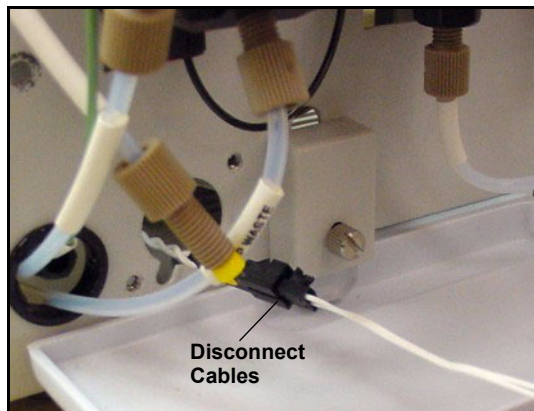

Figure 5-16. Eluent Valve Cable
7. The cable connects to a cable inside the ICS-1000. Continue pulling until the connectors for the two cables are outside the panel (see Figure 5-16). Disconnect the cables.